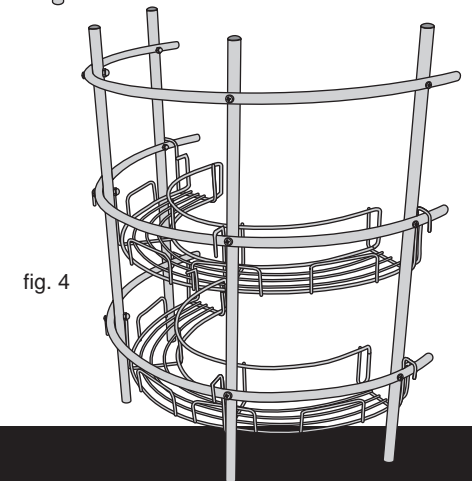

fig. 4
2. Carefully place the unit in the desired location. See fig. 4.